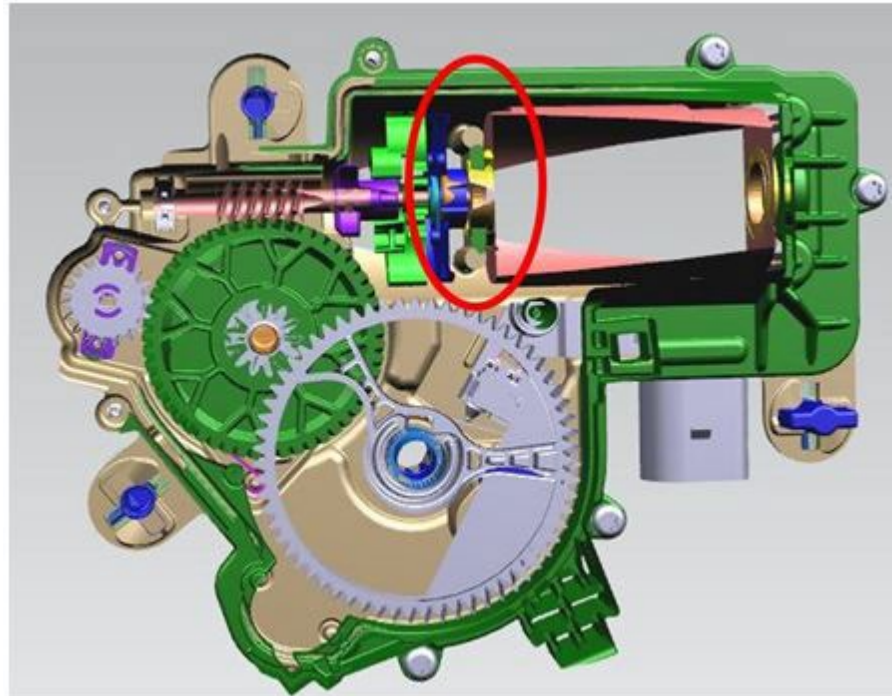

Figure 1. Blocked clutch due to a dimensional deviation.
1. The internal clutch of the closing assist motor can be blocked due to a dimensional deviation. This failure mode could cause DTC B113E07 to store (Figure 1).